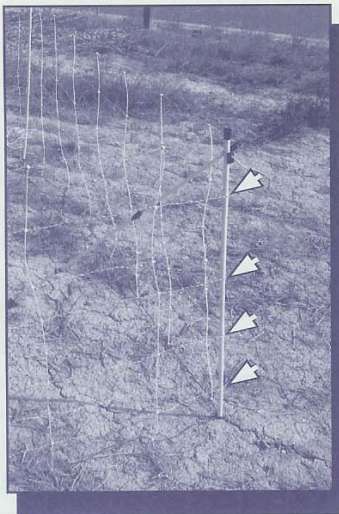

Figure 7—Ensure that the hot wires are on the outside of the fence posts. Otherwise, a bear could knock the post over without getting shocked.
7. Ensure that the energized hot wires are on the outside of the posts (figure 7).